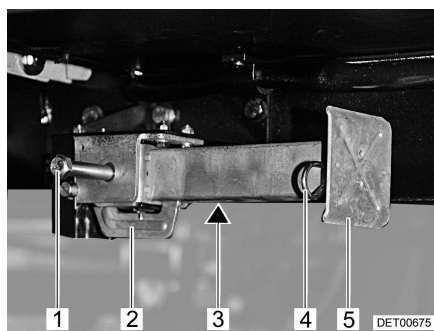

Fig. 14 Steady leg
- Place the socket spanner on the hexagonal nut (Fig. 14,1) and rotate until the steady leg is in a perpendicular downward position.
- If the length of the steady leg can be adjusted, remove the splint (Fig. 14,4) out of the support foot extension (Fig. 14,5).
- Place the socket spanner on the hexagonal nut (Fig. 14,1) and rotate until the steady leg is clear of the ground.
- Push in the support foot extension (Fig. 14,5) and insert the splint (Fig. 14,4) in the drilled hole in the support foot extension.
- Rotate the hexagonal nut (Fig. 14,1) until the steady leg has swung upwards and the guide (Fig. 14,2) has reached the very end of the slot (Fig. 14,3).